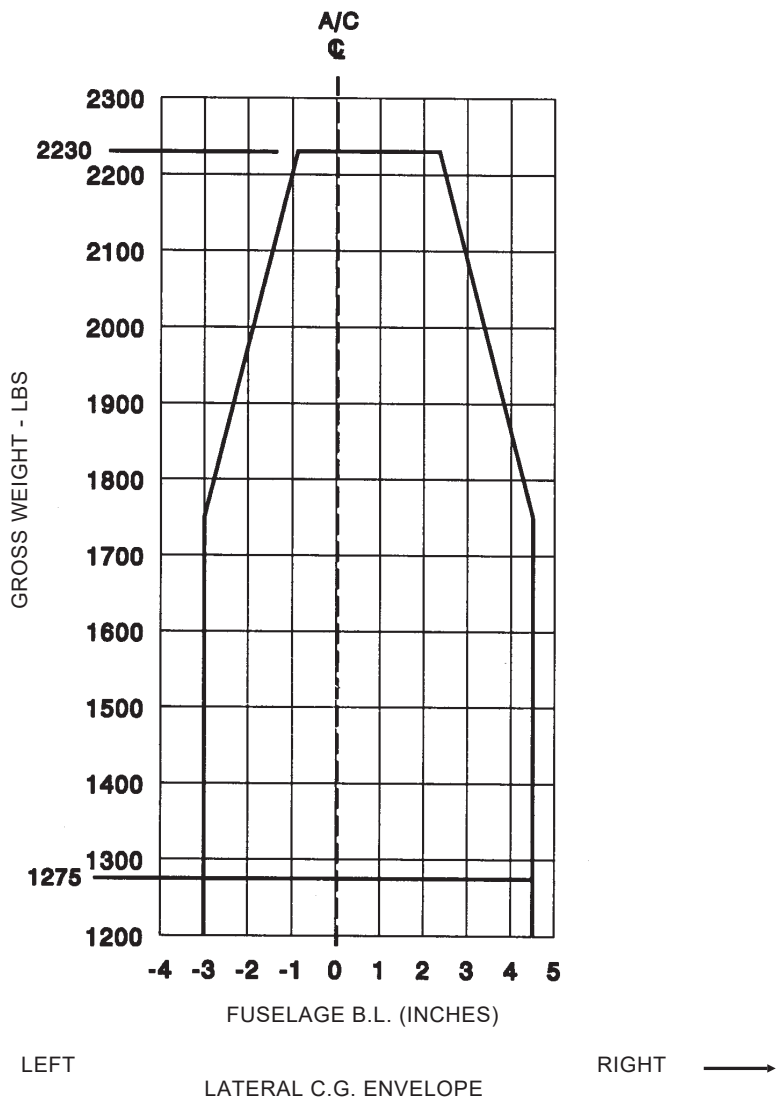

Figure 2-2. Center of Gravity Envelope. (Sheet 2 of 2)
- Forward CG limit is 94.1 inches at 2230 pounds varying linearly to 92.0 inches at 1750 pounds and below. Aft CG limit is 96.0 inches at 2230 pounds varying linearly to 101.0 inches at 1750 pounds & below (Fig. 2-2, Sheet 1).
- Lateral “+” CG is right of the aircraft centerline; lateral “-” CG is left of the aircraft centerline when looking forward (Fig. 2-2, Sheet 2).